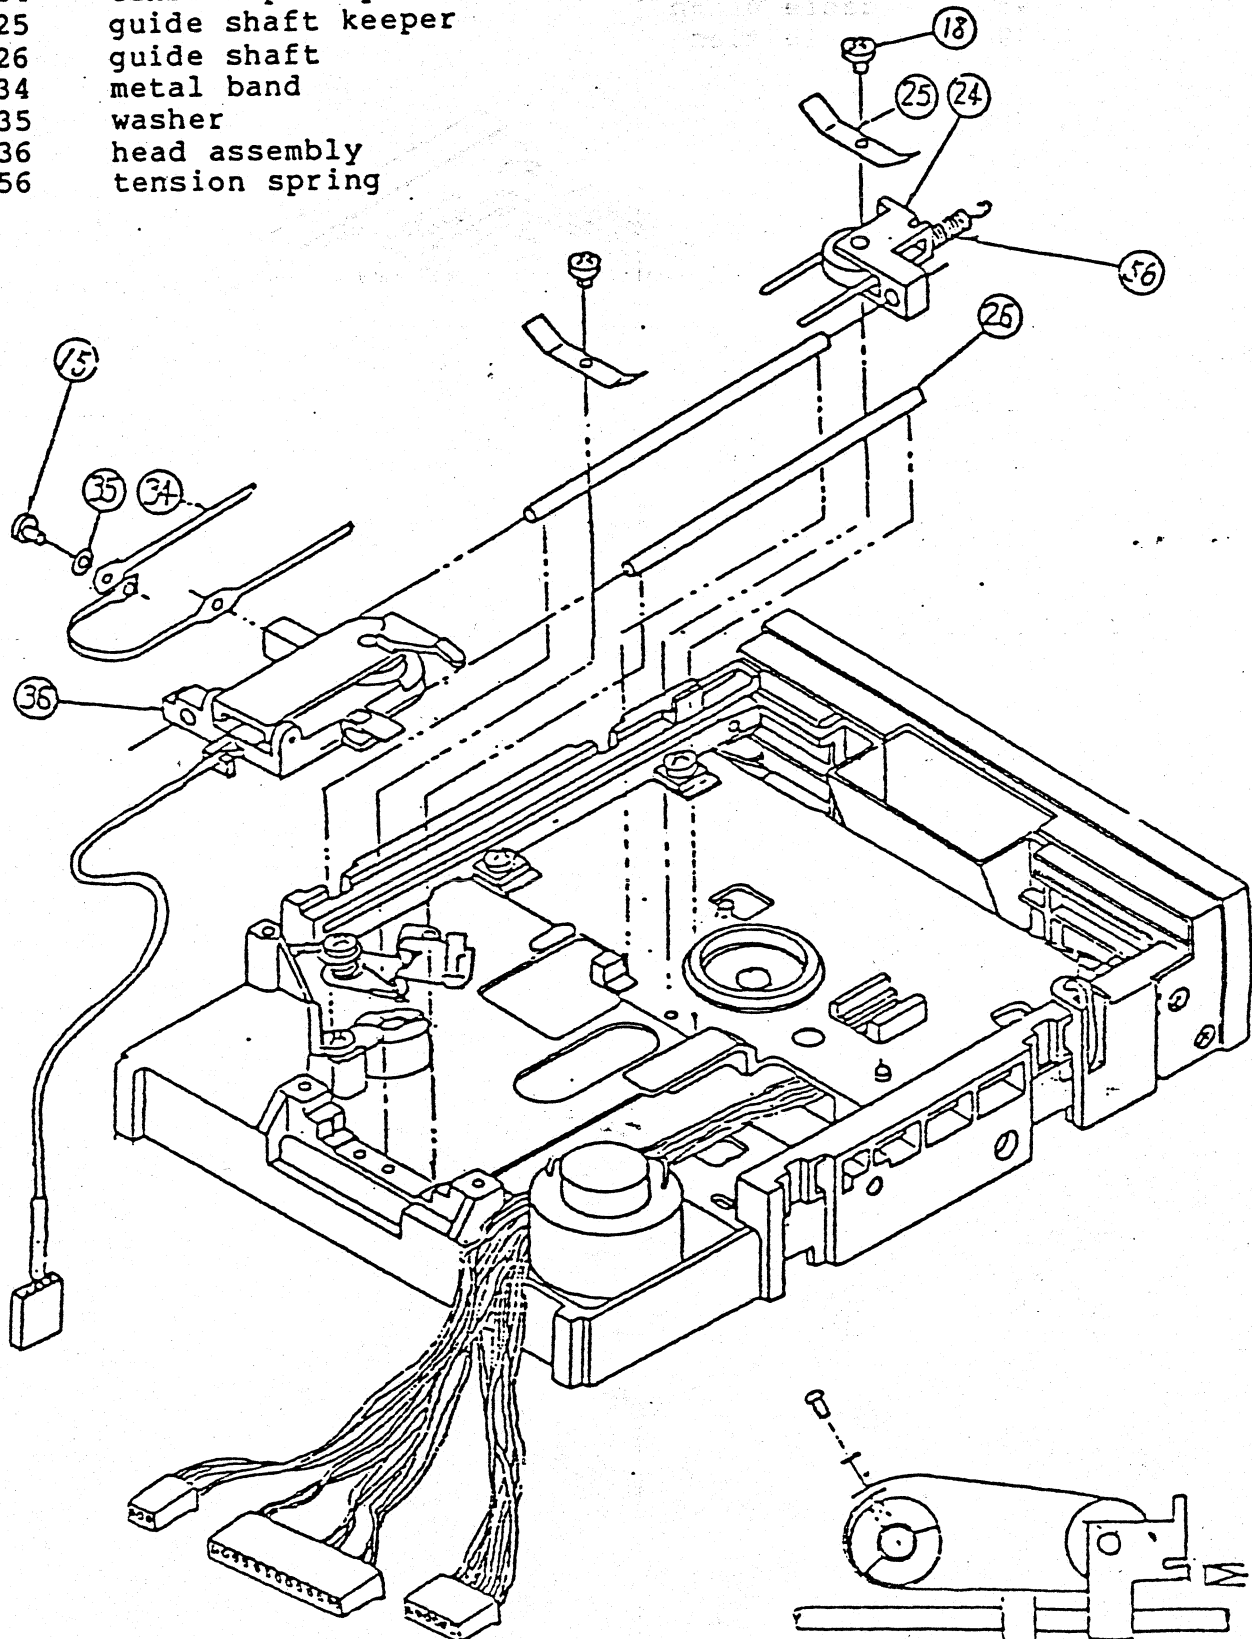

FIG 8
- 2.3.21 Insert the guide shafts into the head assembly. Install the tension pullet as shown in figure 8
- 2.3.27 Secure the cable clamp with a screw as shown in FIG 8.